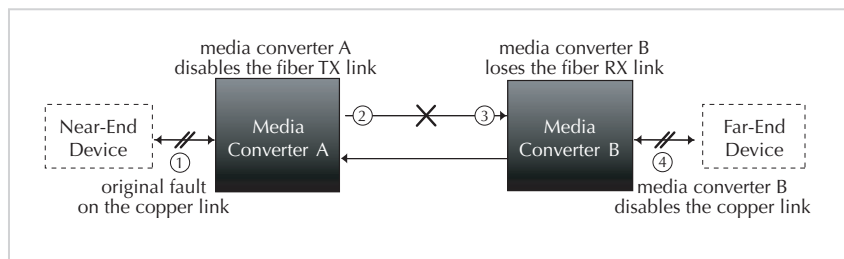

Figure 14: Link Pass-Through
The SIBTF10xx-110 industrial switch provides a Link Pass-Through feature, which allows monitoring its fiber (FX) and copper (RX) ports for signal loss. Refer to Figure 14, in the event of an RX signal loss (1), the industrial switch will automatically disable the TX (transmit) signal (2) thus “passing through” the link loss (3). The far-end device is automatically notified of the link loss (4), which prevents data losses by transmitting data over an invalid link unknowingly.